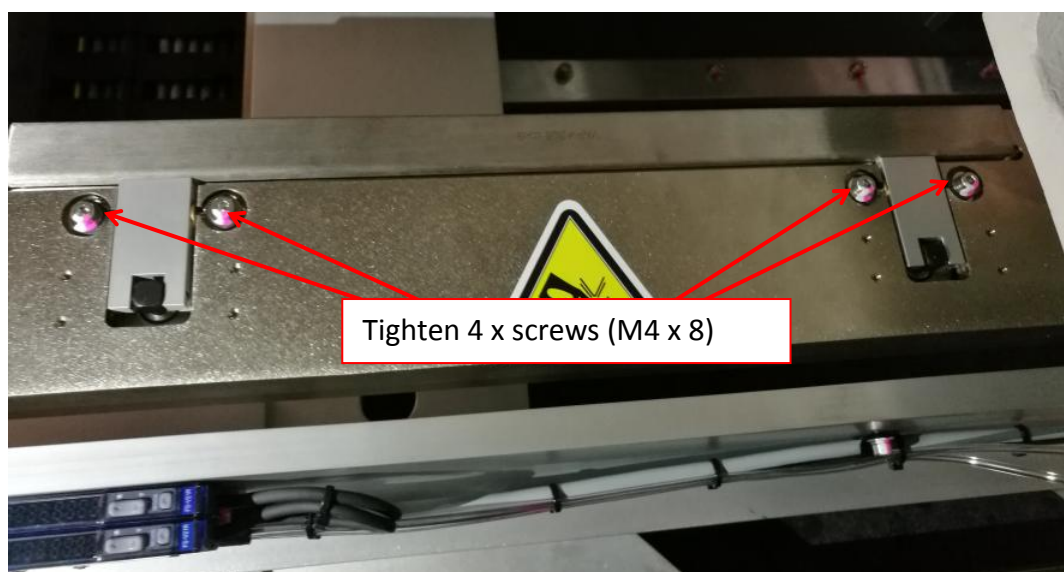

Figure 16 Clamper Assembly
5. Tighten 4 x screws (M4 x 8) as shown in Figure 16.